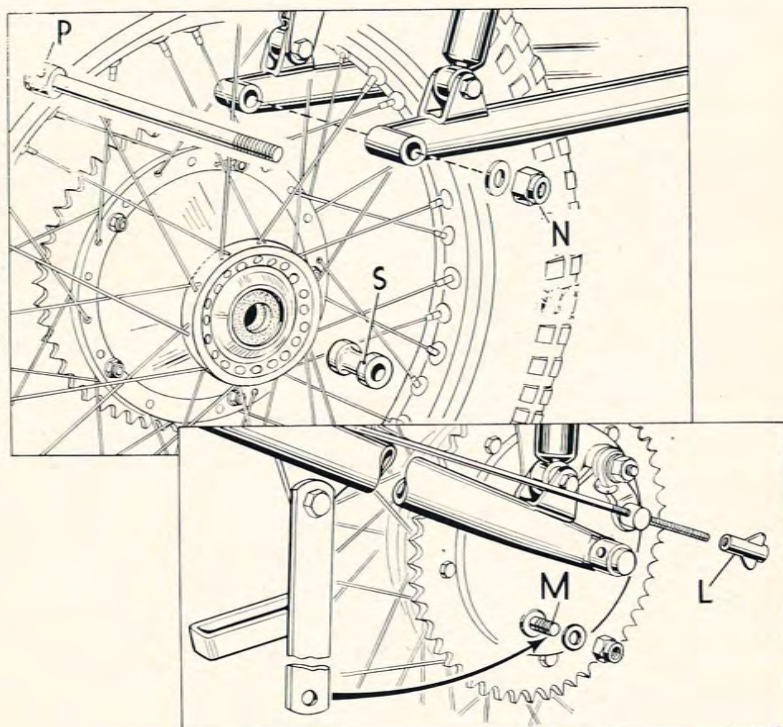

Fig. 21. Removal of the rear wheel.
Adjustment of the brake is effected by turning the wing-nut (L) Fig. 21, in a clockwise direction (as seen from the rear of the machine).
Disconnect the torque arm at the brake plate (M) Fig. 21, and slacken the front connection to allow the arm to remain suspended on the fork tube. Remove the wheel spindle nut (N) on the right side and with the aid of a tommy-bar, draw out the spindle (P) from the left side. Support the wheel while extracting the spindle and spacer (S) and then lower to the ground and remove. When replacing the chain make sure that the connecting link spring clip has its closed end pointing in the direction of travel of the chain (i.e. forwards on the top run). Readjust the brake as required.